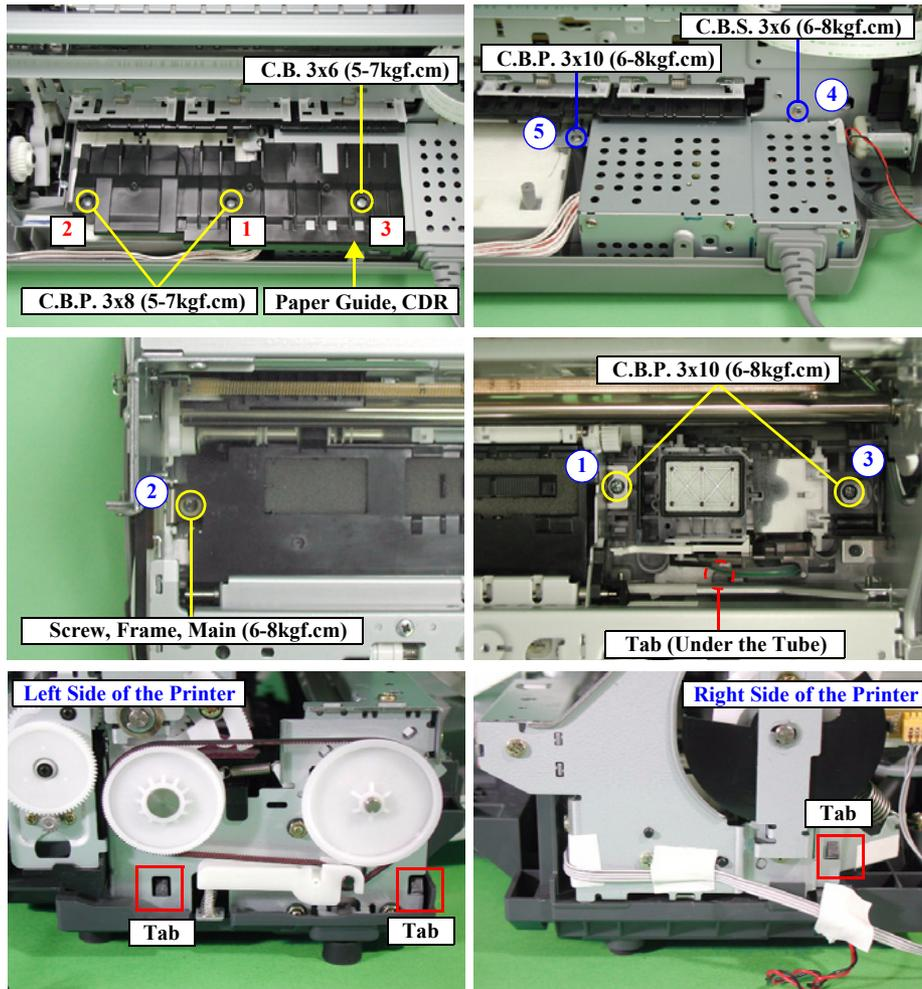

Figure 2-32. Printer Mechanism/Housing, Lower Removal
- Tighten the five screws to secure the Printer Mechanism in the order shown in Figure2-32.
- Tighten the five screws to secure the Paper Guide, CDR in the order shown in Figure2-32.